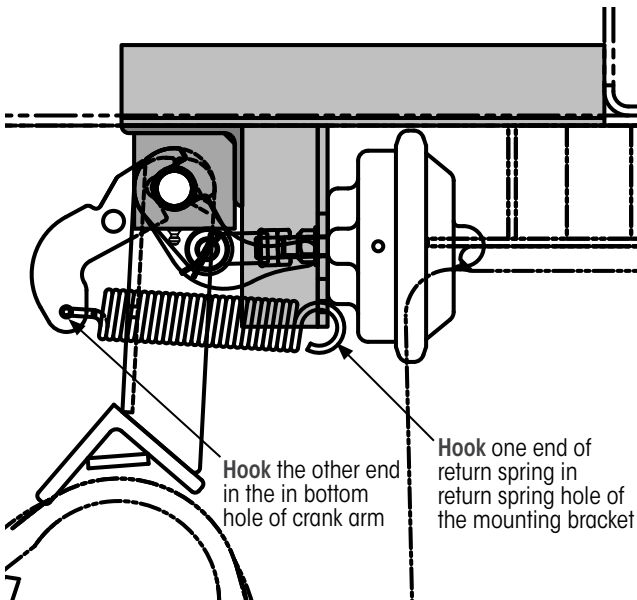

Figure 60: Spring installation details
1. Hook one end of the spring to the mounting bracket (Figure 60).